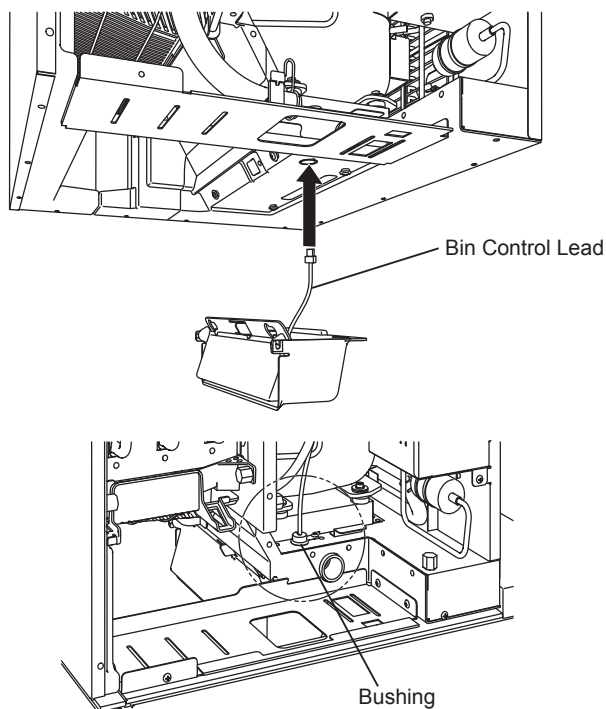

Fig. 4
- 6) Route the bin control lead through the hole in the base, then into the bushing provided. See Fig. 4.